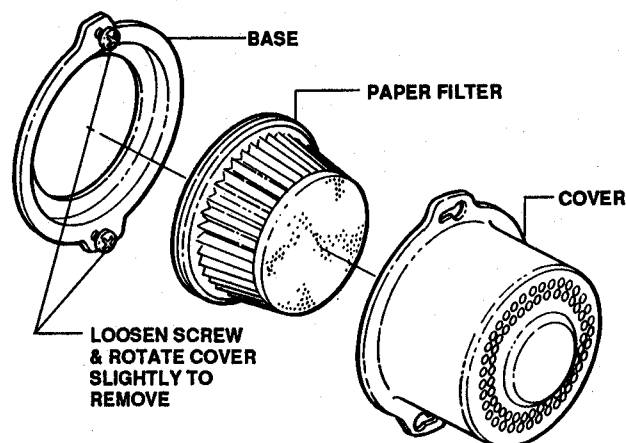

FIGURE 13
**CHECK AIR CLEANER** and replace paper filter once a year or every 100 operating hours. More often if used in extremely dusty conditions. Refer to Figure 13.
1. Loosen two (2) cover screws. (These need not be removed completely).
2. Rotate cover slightly and remove it from base. See Figure 13.
3. Replace paper filter with new filter as shown in Figure 13. (Replacement filters are available at any Authorized Service Center.)